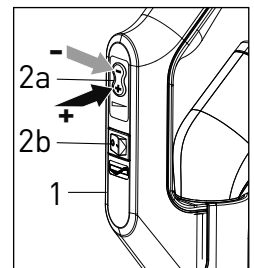

Figure 3
2. Grip the handle of the hose (1) with your thumb over the suction-adjustment control button (#2a, figure 3).
5. Press the (-) on the suction-control button on the handle (#2a, figure 3) to decrease the suction, or the (+) to increase the suction. You can press the soft-touch button several times or hold it down steadily until you reach the suction desired.
6. If you continue to press the (-) you will eventually put the canister in standby mode. Standby mode means that the canister is plugged in, but not running. Note that when the canister is in standby mode, the blue light (8) around the on/off switch on the canister blinks back and forth.
8. Press the brush roller switch (#2b, figure 3) on the D4 handle to turn the brush roller on the ET-1 power head to the on or off position.
9. **BEFORE PROCEEDING WITH FURTHER ASSEMBLY AND USE**, turn off the vacuum with the on/off power knob on the canister (6) **AND** unplug the unit from the wall outlet.